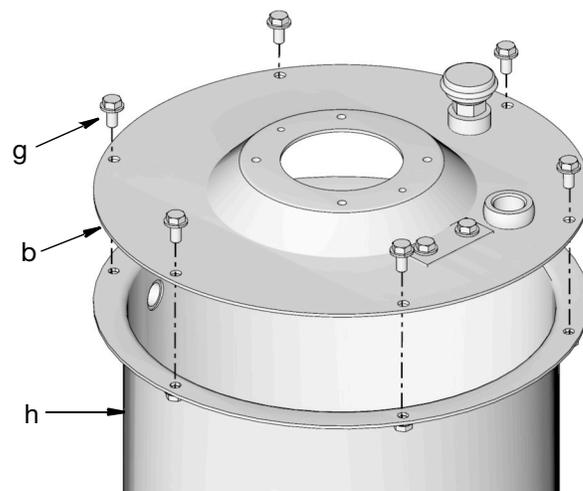

FIG. 5
7. Remove the screws (g) (holding the reservoir cover (b) to the reservoir (h) (FIG. 5).